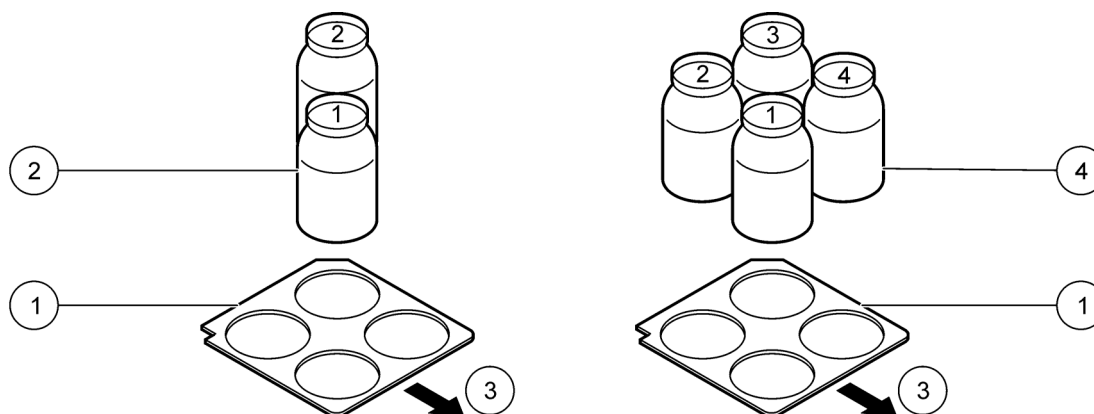

Figure 11 Refrigerated two and four bottle installation
3. For Refrigerated Samplers, place the bottles in the refrigerator as shown in Figure 11.